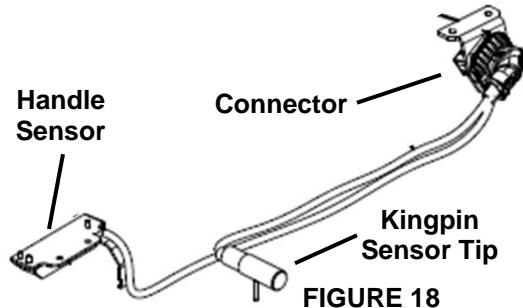

FIGURE 18
A. Place a piece of steel or iron against the kingpin sensor (see figure 18).
A. Press a magnet against the handle sensor mounted under the topplate, directly above the release handle (see figure 18).
A. Remove the magnet from the handle sensor (see figure 18).